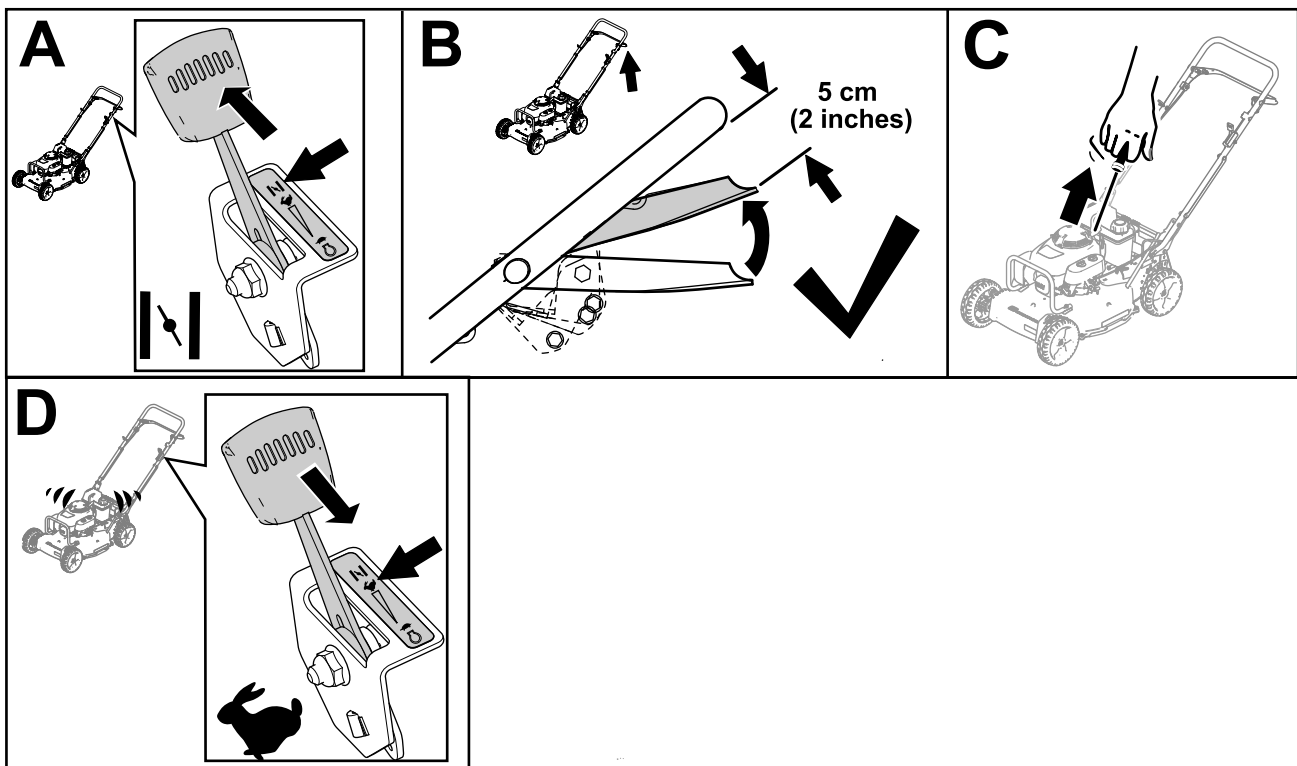

Figure 13
**Note:** Close the fuel valve by moving the fuel-valve lever (Figure 13) to the **left** if you will not be starting the engine soon afterward.